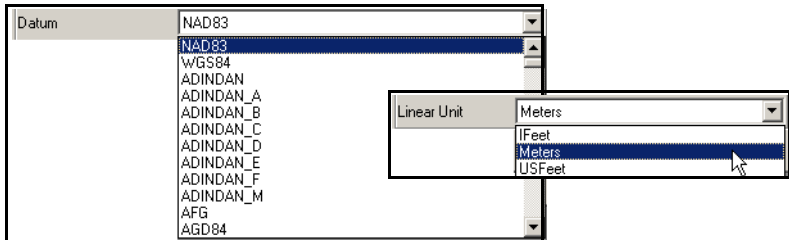

Figure 3-90. Datum and Linear Unit Lists
- If the *Lat, Lon, H* coordinate type is selected, set the Datum and Linear units (Figure 3-90).